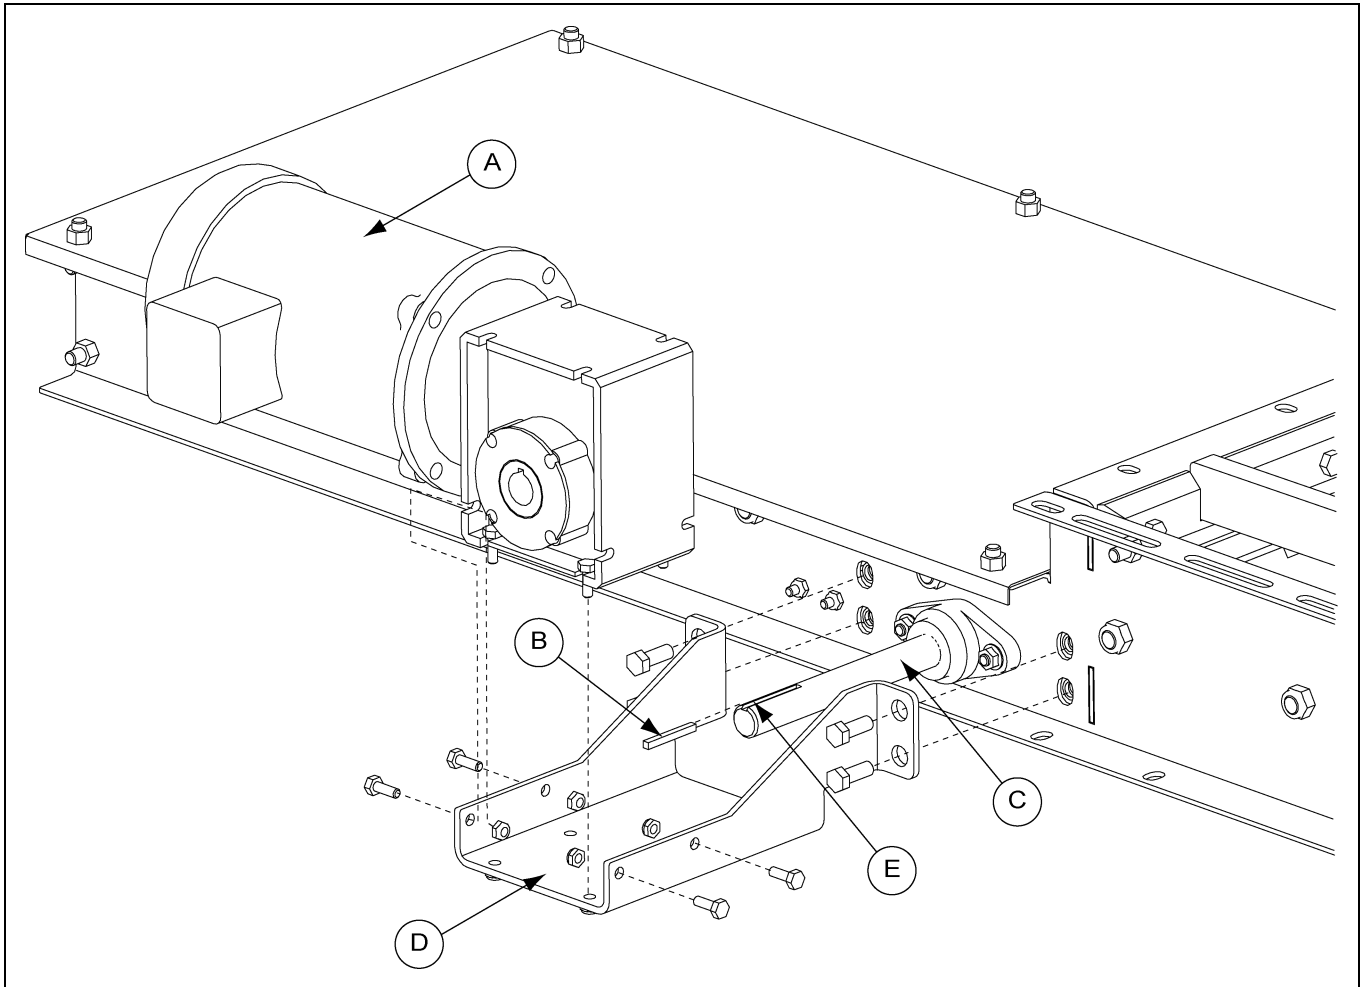

Figure 3D
1. Install the motor bracket to the gate. Then attach the motor to the bracket as shown in Figure 3D, using the provided hardware.